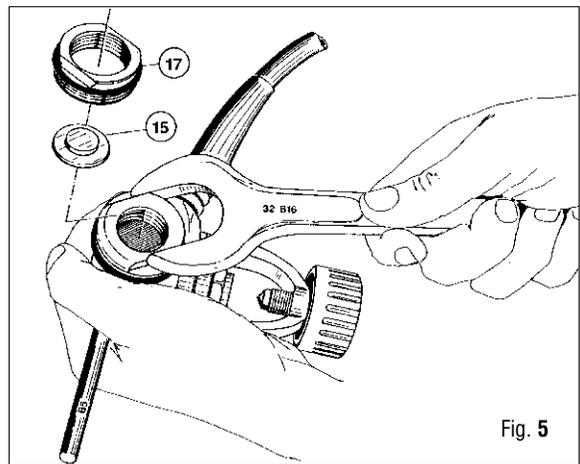
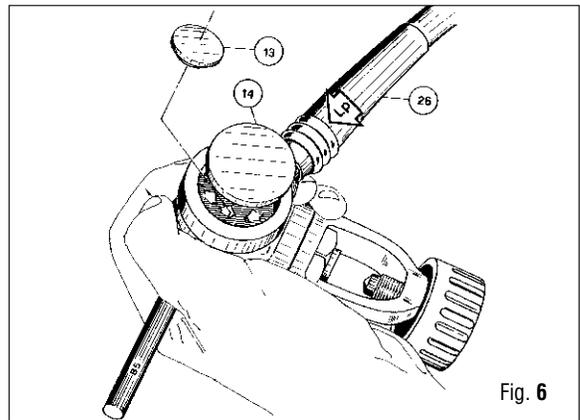

Fig. 5
Fig. 6
10. Remove retaining nut (17) using tool (B16) and take off spring base plate (15). (Fig. 5)
**NOTE** To dislodge ring (69) from the retaining nut (17), just lightly press.
11. Introduce low pressure air (less than 7 bar - 101.5 psi), remove diaphragm (14) and poppet button (13) (Fig.6).